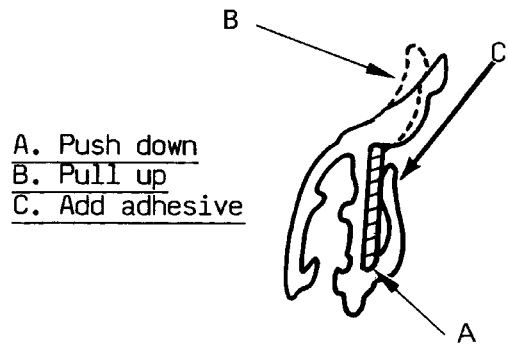

FIGURE 4
4. Push the piece down to the bottom of the lower molding lip, then press the taped side against the molding while pulling up the upper molding lip (Figure 4).
5. Apply a small amount of 3M Super Weatherstrip Adhesive (#8018) or equivalent between the lower molding lip and the plastic piece, then press the lower molding lip against the plastic piece until it holds in place (Figure 4). This will eliminate possible squeaking.